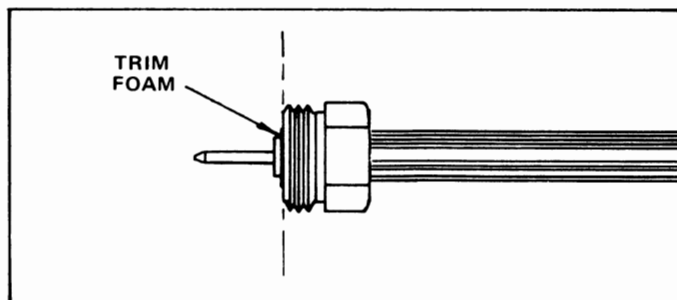

FIGURE 4
STEP 4. Trim foam flush with flared outer conductor. Do not cut into inner conductor. See Figure 4. Remove copper particles with small wire brush.